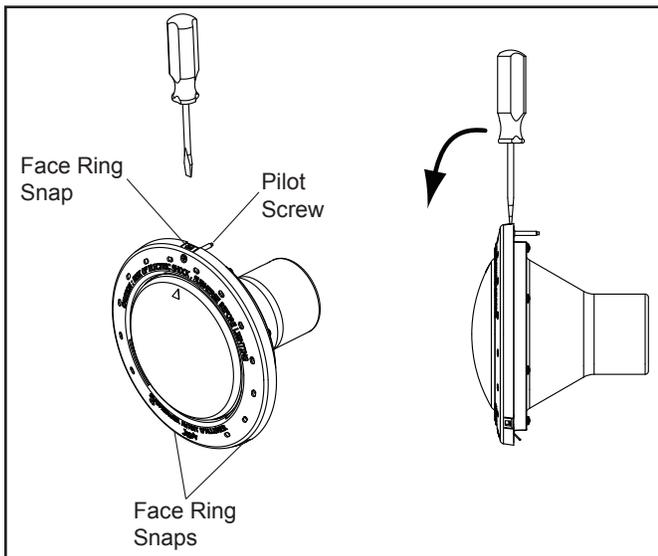

Figure 4. Plastic Face Ring Removal
- b. To remove a plastic face ring, insert a slotted screwdriver into the opening in the face ring. Once engaged, pry the screwdriver towards the light lens. Once snap is disengaged, remove screwdriver from cutout and pull the top edge of face ring until face ring separates from top clamp. See Figure 4.
2. Loosen the screws (eight (8) for pool or six (6) for spa) on the bottom clamp that holds the face ring, top clamp and lens to fixture body. Do not remove the screws or retaining rings completely from the bottom clamp. Remove the bottom clamp and pull the face ring and the top clamp assembly from the fixture body. Do not remove the top clamp from the face ring.